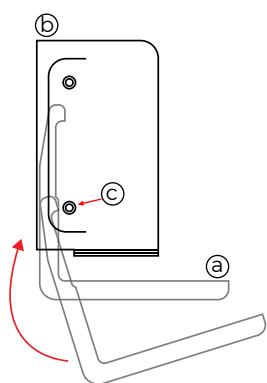

Figure 1
- To assemble, insert L-Bracket (a) into Bracket Housing (b) at an angle as shown in Figure 1. If part is already assembled, simply loosen the L-Bracket (a) by unscrewing the bottom screw (c) with M2.5 Allen Key.